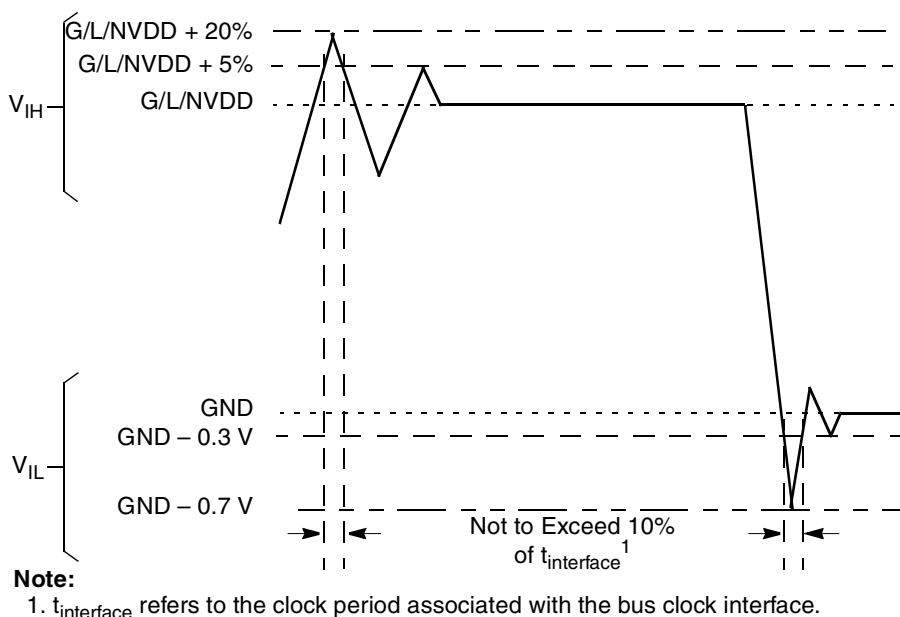

Figure 2. Overshoot/Undershoot Voltage for GVDD/NVDD/LVDD
4. (M,N,L) V_{IN} and MVREF may overshoot/undershoot to a voltage and for a maximum duration as shown in Figure 2.
Figure 2 shows the undershoot and overshoot voltages at the interfaces of the MPC8315E.